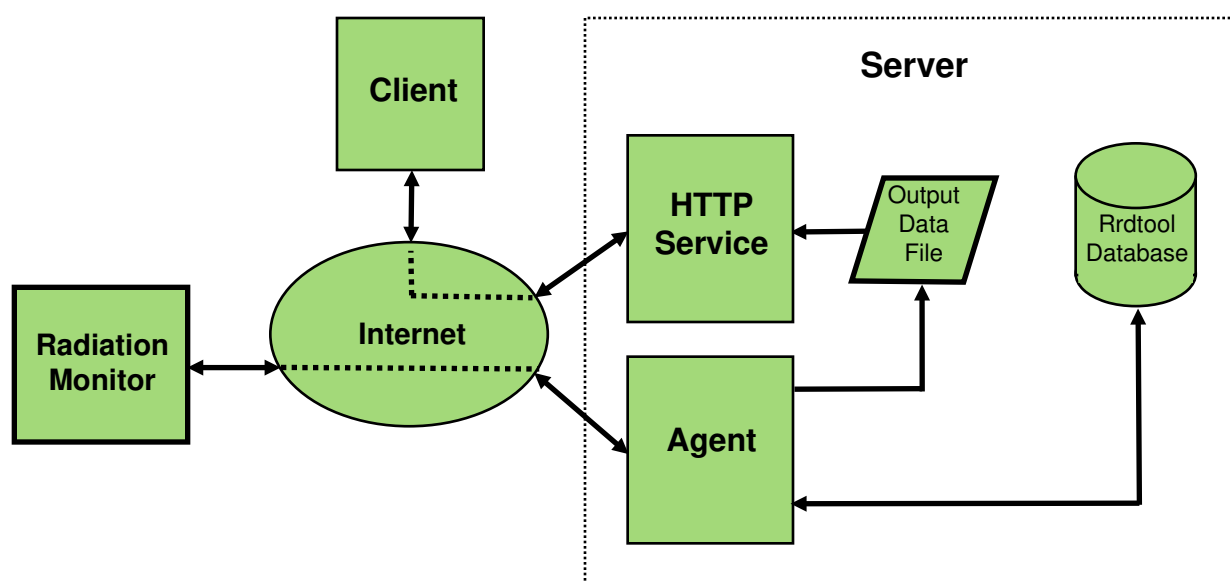

Figure 4. Block diagram of server software components showing data i/o, agent process, HTTP service, and database elements.
Referring to figure 4, the server components consist essentially of two pieces: an HTTP server component and an agent component. The HTTP server component includes HTML documents, with embedded Java script, for displaying the radiation monitor data
The agent parses this string, writes the data to a rrdtool database, and writes the data to the "Output Data File" for use by HTML documents. When a client requests a radiation monitor HTML document, Java script embedded in the document reads the output data file and displays this data in an HTML document. Although not shown in figure 4, the agent, as mentioned earlier, generates graphic charts for display in HTML documents.
4. The input and output data files (see figure 4) get overwritten frequently; similarly the graphic image files get overwritten frequently. On SD card systems, such as a Raspberry Pi, it is inadvisable to do frequent writes to any file system mounted on the SD card. To use the ram based temporary file system (tmpfs) to store these files, continue with step 5. Otherwise, to write dynamic content to the disk drive, continue with step 7.